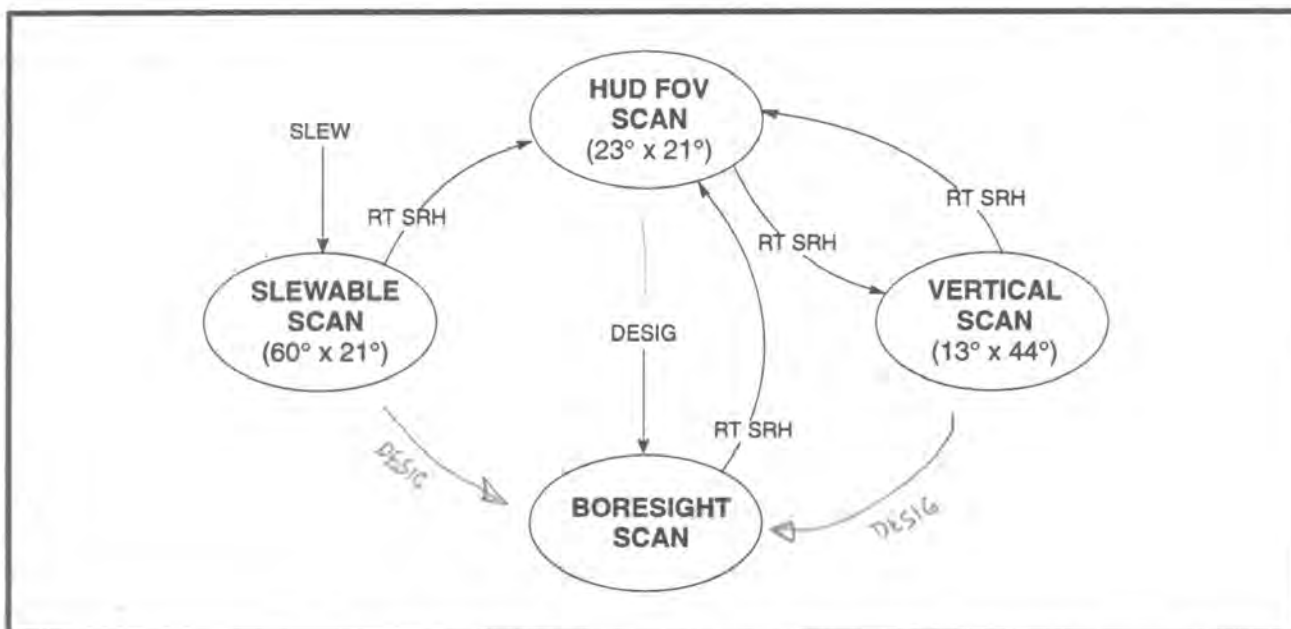
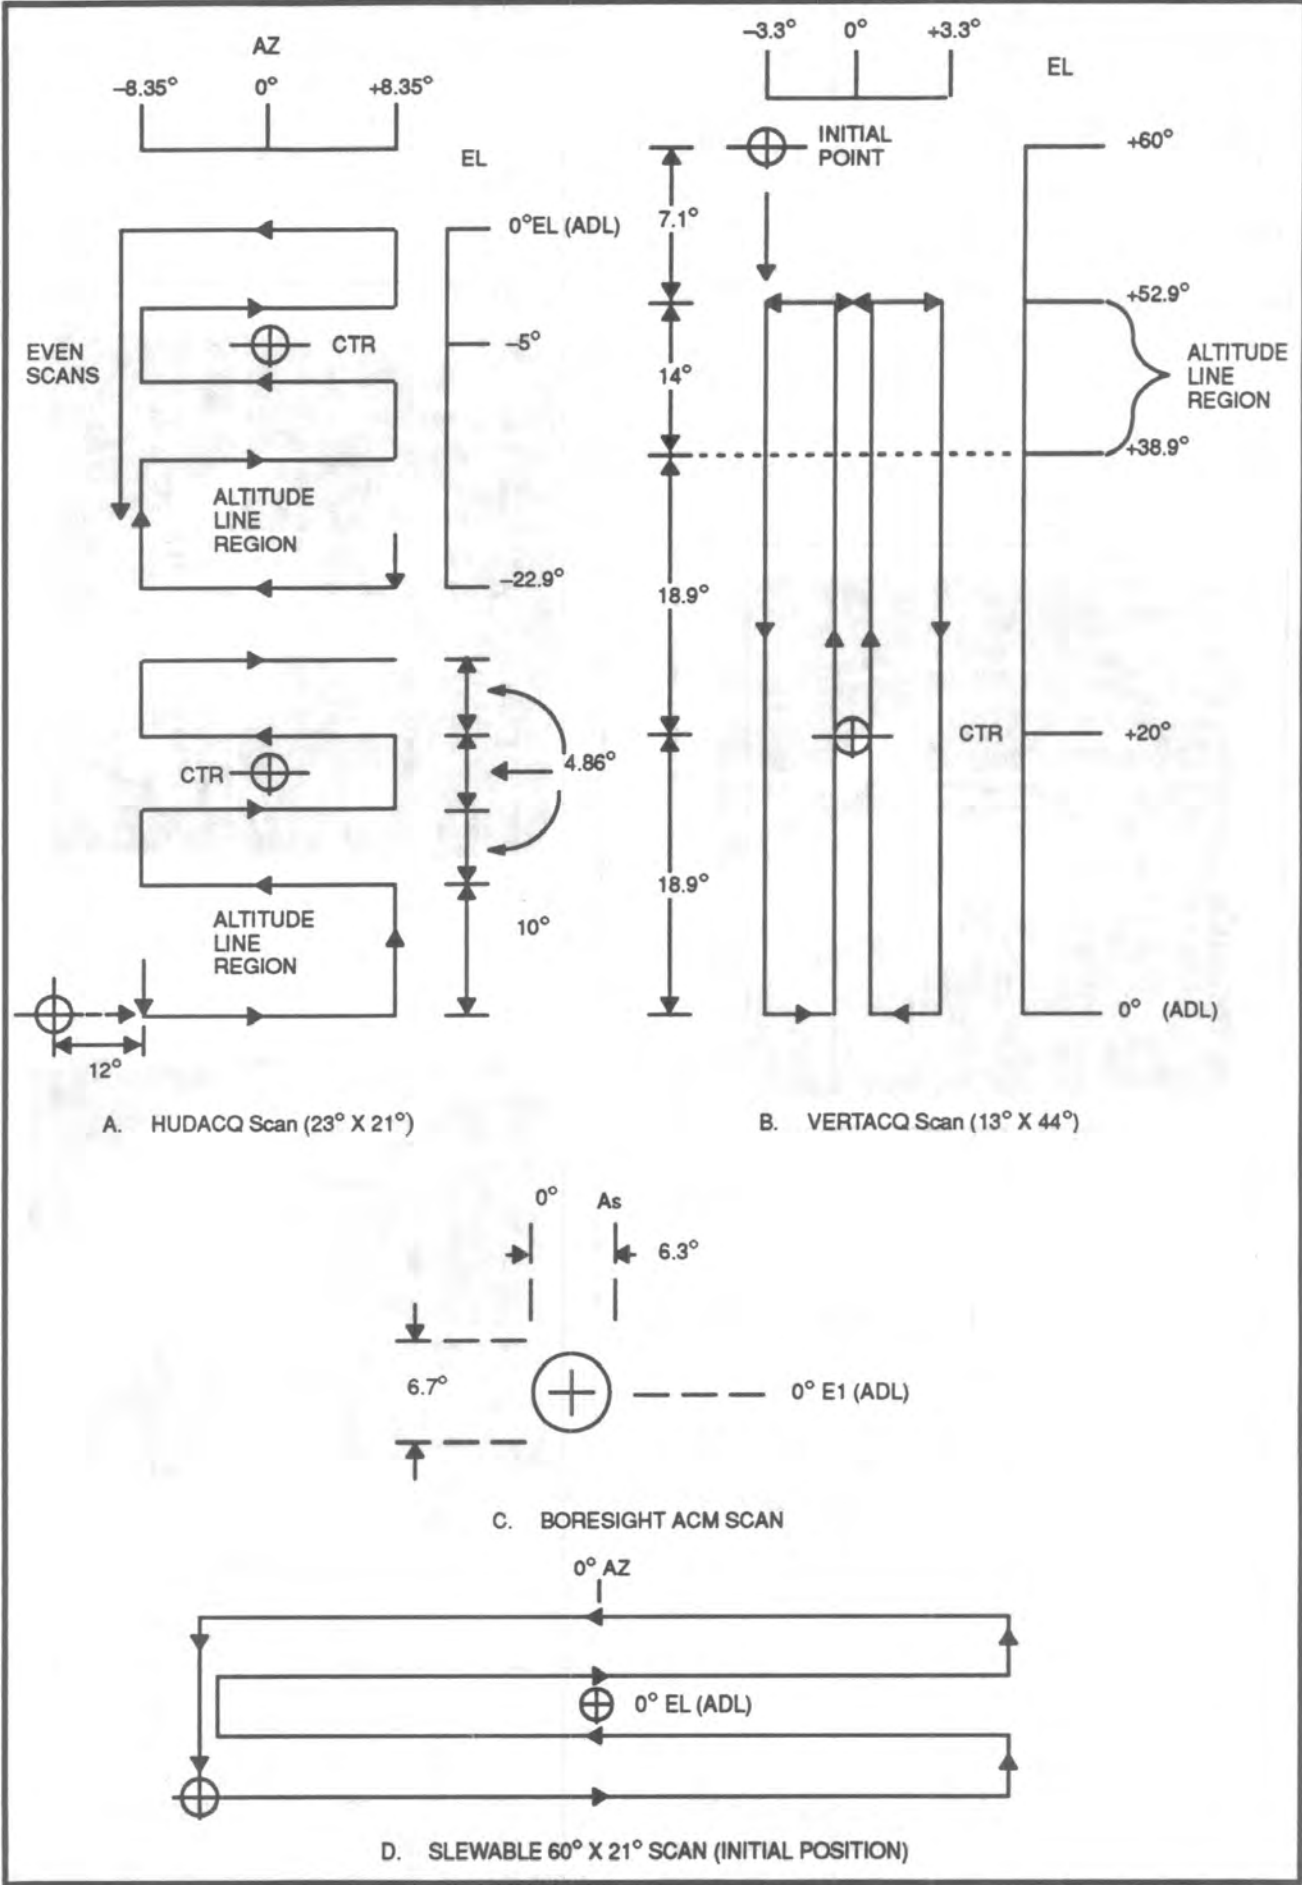

Figure 7-24 ACM Scan Patterns
Figure 7-25 ACM Scan Patterns
7.217 Four scan patterns are available in ACM search (target not tracked) as shown in Figure 7-25. The relationship between the scans is shown in Figure 7-24.